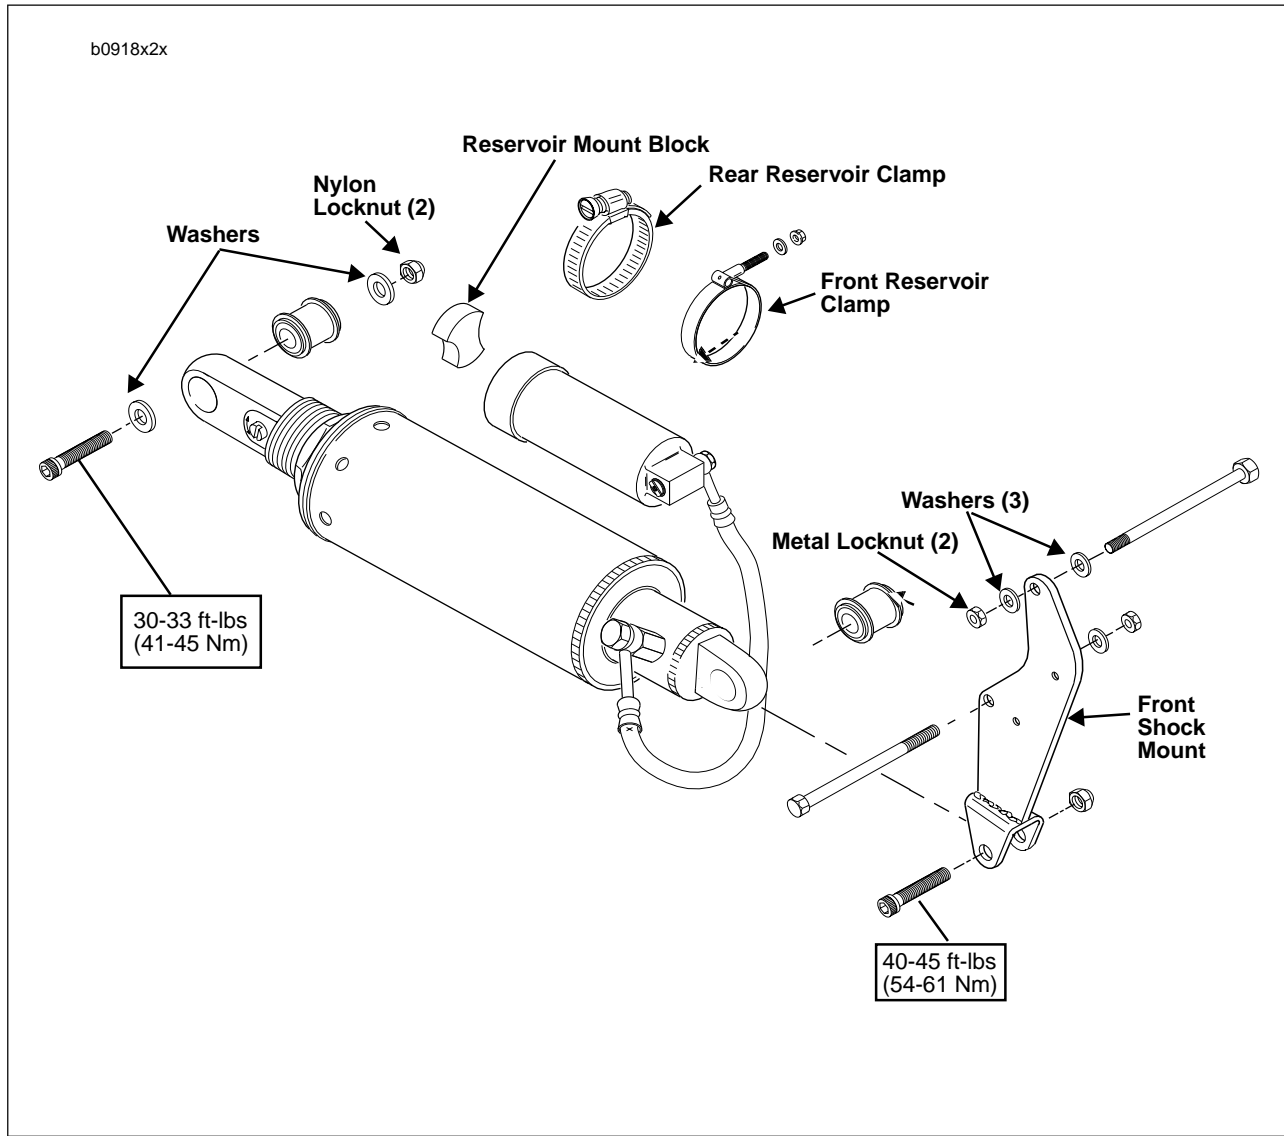

Figure 2-80. Rear Shock Absorber
See Figure 2-80. The rear suspension is controlled by the shock absorber. The shock allows adjustment of rear compression and rebound damping and spring preload.
- See Figure 2-80. Place **new** bushings into mounting holes of shock absorber (if only replacing bushings).